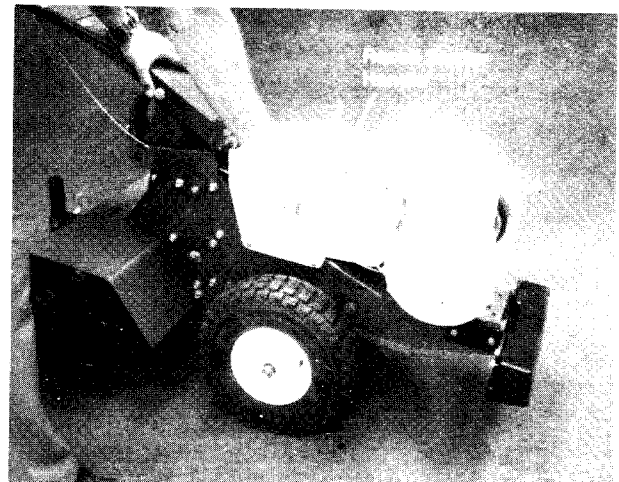

FIGURE 34.
4. Stand at side of tiller, grasp the starter handle and pull out rapidly. Return it slowly to the engine. Repeat as necessary. See figure 34.